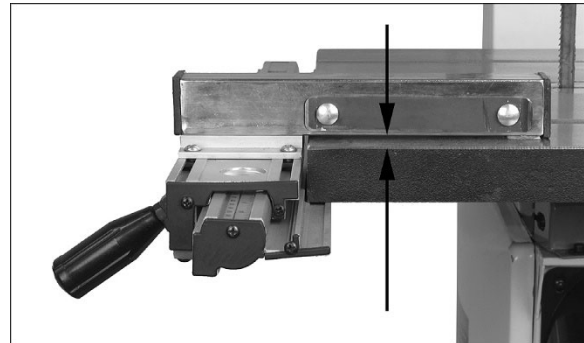

Figure 5-18
4. Slide fence body onto end of guide rail (Figure 5-18) and push down handle to lock fence body to rail. There should be an even gap between table surface and the length of fence body.